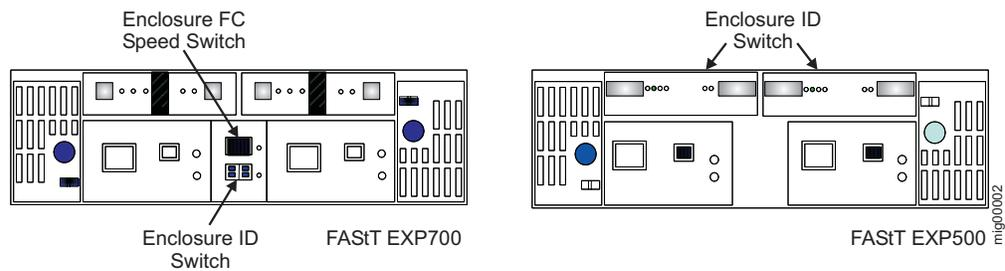

Figure 4. EXP700 and EXP500 enclosure ID and fibre channel speed switches
- Set the enclosure ID of the additional storage expansion enclosures. Each drive enclosure in the FAStT storage subsystem drive loop must have a unique drive enclosure ID. In a EXP500 storage expansion enclosure, there is an enclosure ID switch mounted on each of two ESM canisters. Set each ESM canister's enclosure ID switch in the EXP500 drive enclosure to the same unique number in the drive loop. In a EXP700 storage expansion enclosure, the only enclosure ID switch is mounted between the power supplies. See the appropriate *FAStT storage expansion unit installation and user's guide* for additional information. Figure 4 illustrates the location of fibre channel speed switches on the EXP700 and EXP500 storage expansion enclosures.